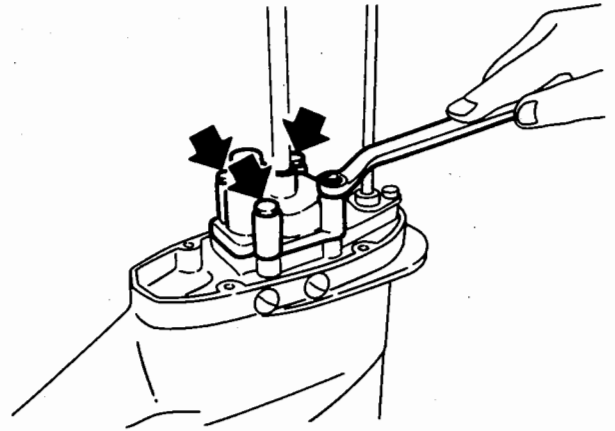

Fig.10.6
1. Remove the pump case by removing the pump case bolts (H650-4). (Fig.10.6)